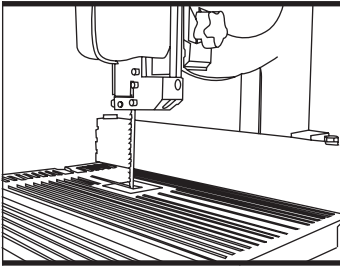

Fig 8
5. Adjusting the upper band guide (7) (See Fig8)